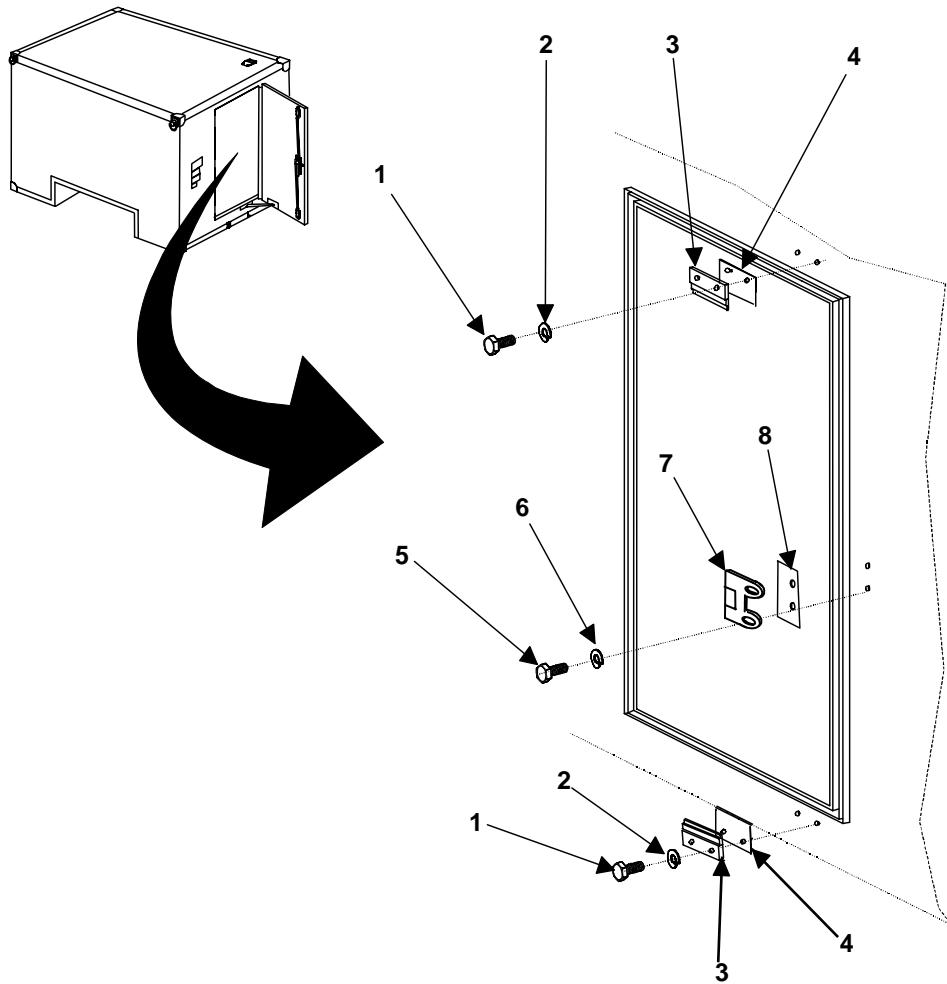

Figure 1. Door Strike.
1. Remove screws (figure 1, item 1) and lockwashers (figure 1, item 2) from strike, catch (figure 1, item 3).
2. Remove strike, catch (figure 1, item 3) and shims (figure 1, item 4) from shelter.
3. Remove screws (figure 1, item 5) and lockwashers (figure 1, item 6) from strike, center door (figure 1, item 7).
4. Remove strike, center door (figure 1, item 7) and shims (figure 1, item 8) from shelter.
1. Place strike, center door (figure 1, item 7) and shims (figure 1, item 8) into position on shelter.
2. Install screws (figure 1, item 5) and lockwashers (figure 1, item 6).
3. Place strike, catch (figure 1, item 3) and shims (figure 1, item 4) into position on shelter.
4. Install screws (figure 1, item 1) and lockwashers (figure 1, item 2) into position through strike, catch (figure 1, item 3) and shims (figure 1, item 4).